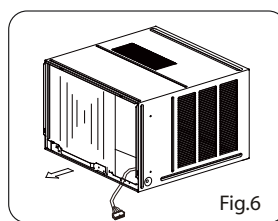

Fig.6
2. Grasp the handle on the chassis and carefully slide the air conditioner out of the cabinet.(see Fig.6)
3. Grasp the handle on the chassis and carefully slide the air conditioner out of the cabinet.(see Fig.6)